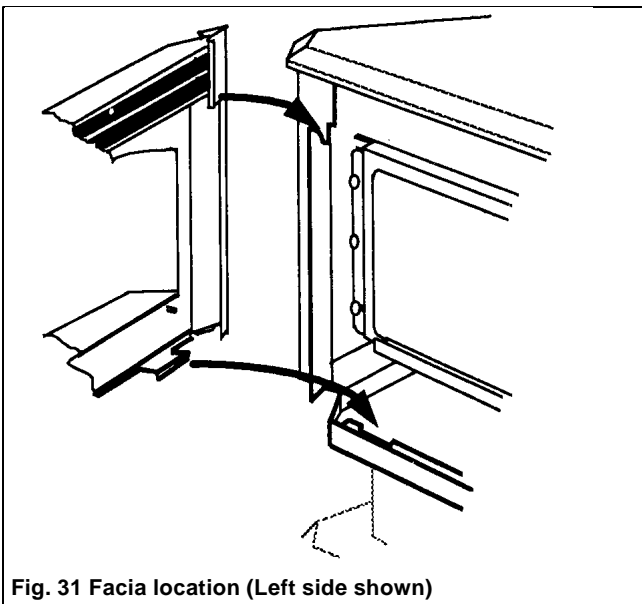

Fig. 31 Fascia location (Left side shown)
18.2 Locate the fascia unit to the appliance front - see figure 31. Locate at the top corners and at the bottom. We suggest the following order: